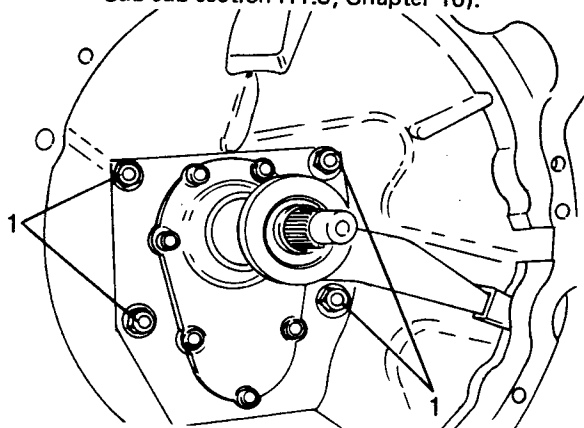

Fig H1.59
- (2) Refer to Fig H1.59. Remove the fixing nuts (1) that retain the clutch housing to the gearbox housing.